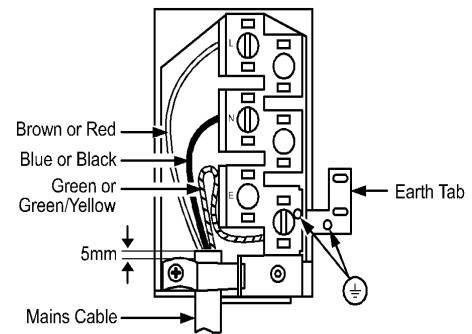

Fig.7
- Make connection as shown in Fig. 7 by proceeding as follows:-
- Clamp the mains cable securely ensuring 5mm of the outer insulation is inside the terminal block and that the wires are not taught but not so slack as to cause any fouling. See Fig. 7.